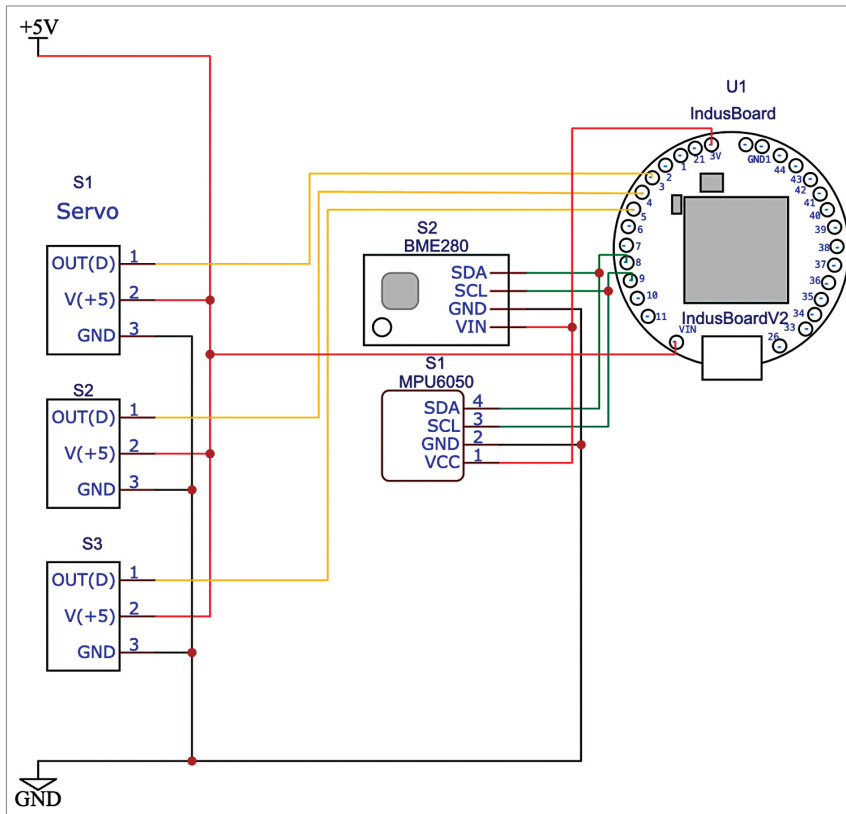

Fig. 3: Rocket stabilisation circuit
The complete flight control and stabilisation circuit is shown in Fig. 3. It is built around the IndusBoard Coin, which acts as the flight controller. Three micro servo motors provide active fin control, while an MPU6050 IMU supplies gyroscopic and acceleration data. A BME280 sensor measures atmospheric
Assemble the electronics according to the circuit diagram shown in Fig. 3, then securely mount the controller board, sensors, and battery inside the rocket body. Ensure that the battery and electronics are firmly fastened and adequately protected from the heat and exhaust of the rocket motor. Finally, maintain the centre of gravity (CG) and centre of pressure (CP) as determined during the design and simulation phase described in the previous article to ensure stable flight.